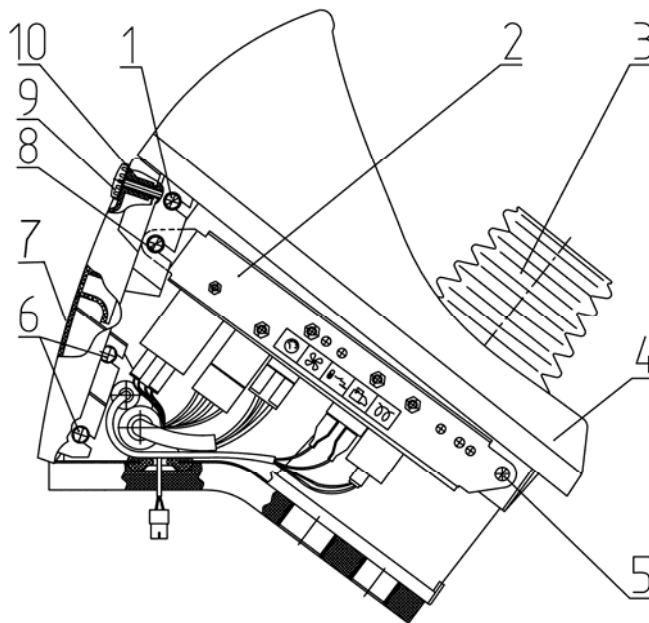

Figure 11.25
- a) unscrew two screws 1 (Figure 11.25), two screws 5, as well as and two quick-dismounting screw 9;
- a) remove cover 10 (Figure 11.25) with boxes of fuses, but first unscrew two quick-dismounting screws;
- a) unscrew two quick-dismounting screws 9 (Figure 11.25);
To replace relay installed on bar 2 (Figure 11.25) do the following:
To replace sealant 3 (Figure 11.25) unscrew two screws 4 and two screws 5 that fasten panel 4, and after that raise the panel and replace sealant.